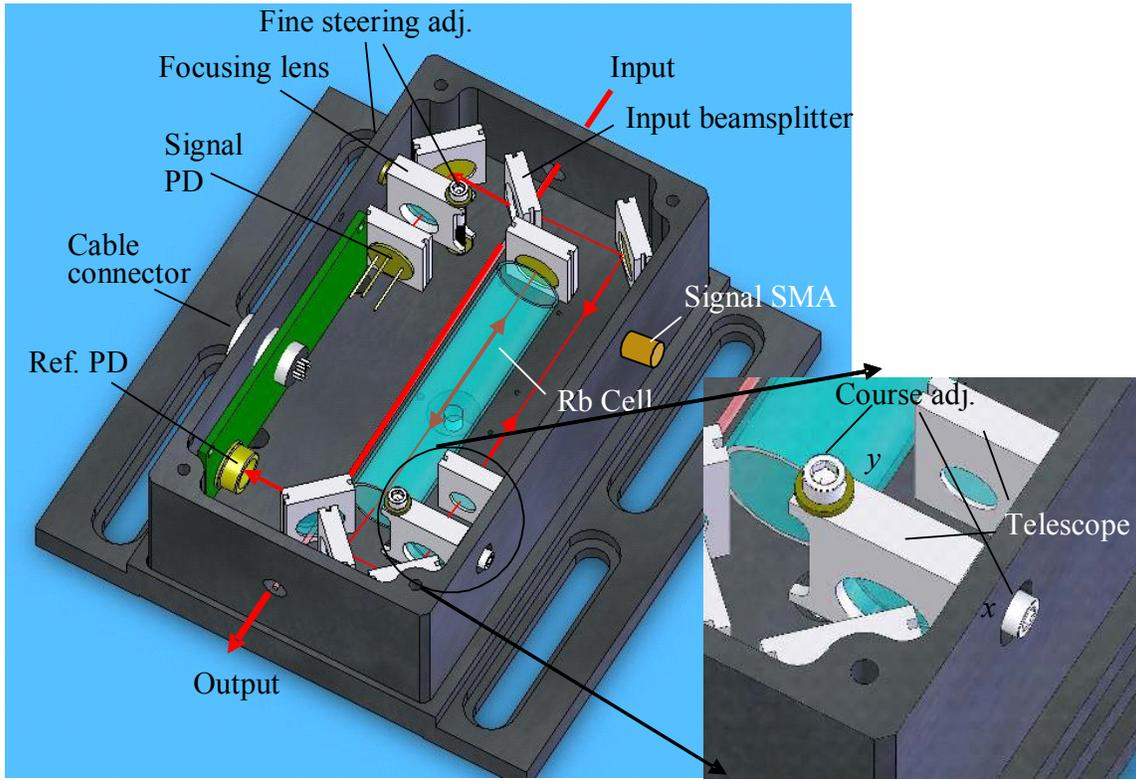

Figure 1: Spectroscopy Module with cover removed.
The spectroscopy module contains a 3x Galilean beam expander. The output lens is mounted on a spring-loaded mount with 2-56 screws that serve as a course adjustment for the beam positioning onto the signal photodiode and also to control the retro reflection of the reflecting mirror (Figure 1, inset).
The spectroscopy module contains a focusing lens for the signal photodiode on a spring-loaded mount with 2-56 screws for fine adjustment of the beam onto the photodiode (Figure 1).
5. At this point the beam should be going through the center of the input and output apertures on the module, the center of the 6 mm lens, and the second pick off should be impinging on the reference photodiode (see Figure 1). Make adjustments as necessary.